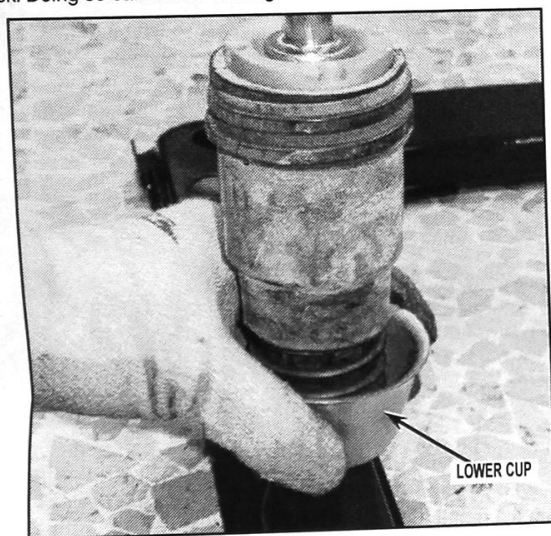

FIGURE 13
19. Install the new suspension shocks by applying adhesive (supplied with kit) to the threads of the shocks that installs to the base. Install all three (3) new suspension shocks to the base by tightening the suspension shock hand tight as shown, grasping the bell portion of the shock only. See Figure 13.